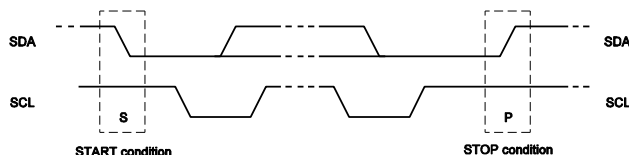

Figure 8. Start and Stop Conditions
The start and stop conditions are signaled by the master device, which signifies the beginning and the end of the I²C transfer. The start condition is defined as the SDA signal transitioning from high to low while the SCL is high. The stop condition is defined as the SDA signal transitioning from low to high while the SCL is high (see Fig. 8).
Data transfers follow the format shown in Fig. 8. After the start condition (S), a slave address is sent. This address is 7-bits long followed by an eighth bit, which is a data direction bit (R/W). A ‘0’ indicates a transmission (write), and a ‘1’ indicates a request for data (read). A data transfer is terminated always by a stop condition (P) generated by the master. However, if a master still wishes to communicate on the bus, it can generate a repeated start condition (Sr) and address another slave without first generating a stop condition.